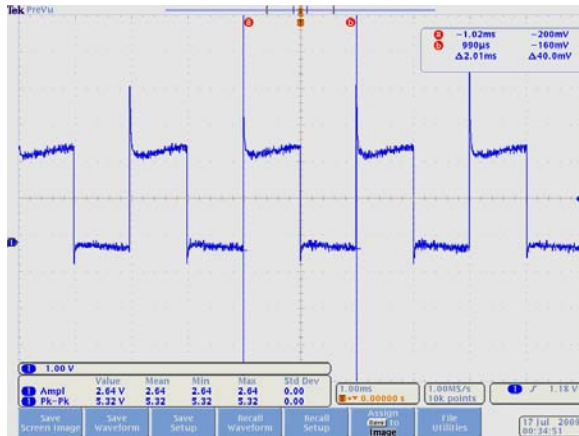

Figure 3.7: Waveform 2
2. Figure 3.7 is a waveform generated from a different note. Following the same steps as before, determine the time scale, period, frequency, and musical note.